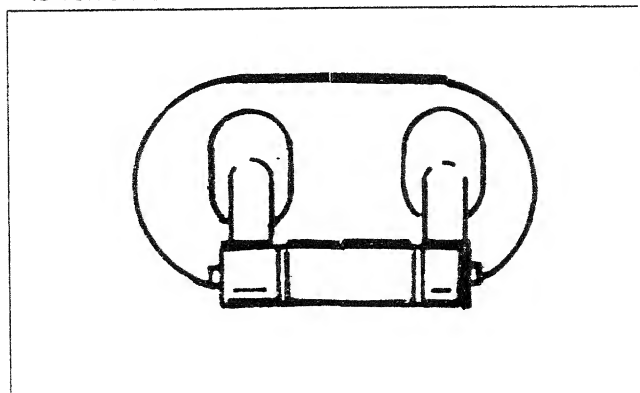

Figure 4 — Dual 35-amp Circuit Breakers
**Dual AC Circuit Breaker:** Rated at 35 AC amps, the circuit breaker (Figure 4) protects the generator's AC output circuit against overload and provides a method of turning OFF the generator's 120/240 volts AC output to vehicle circuits.